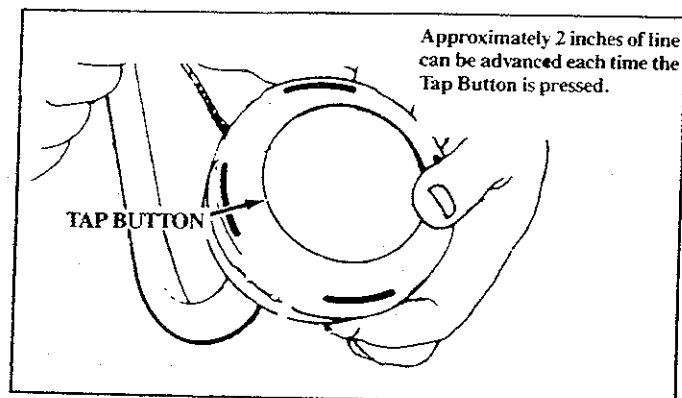

Figure 3
- Press the Tap Button and pull the Trimmer Line from the Head a minimum of 4 inches. Figure 3. Approximately 2 inches of line can be advanced each time the Tap Button is pressed.
- b. Extend line 4 inches from Trimmer Head to provide adequate load on engine. Figure 3.